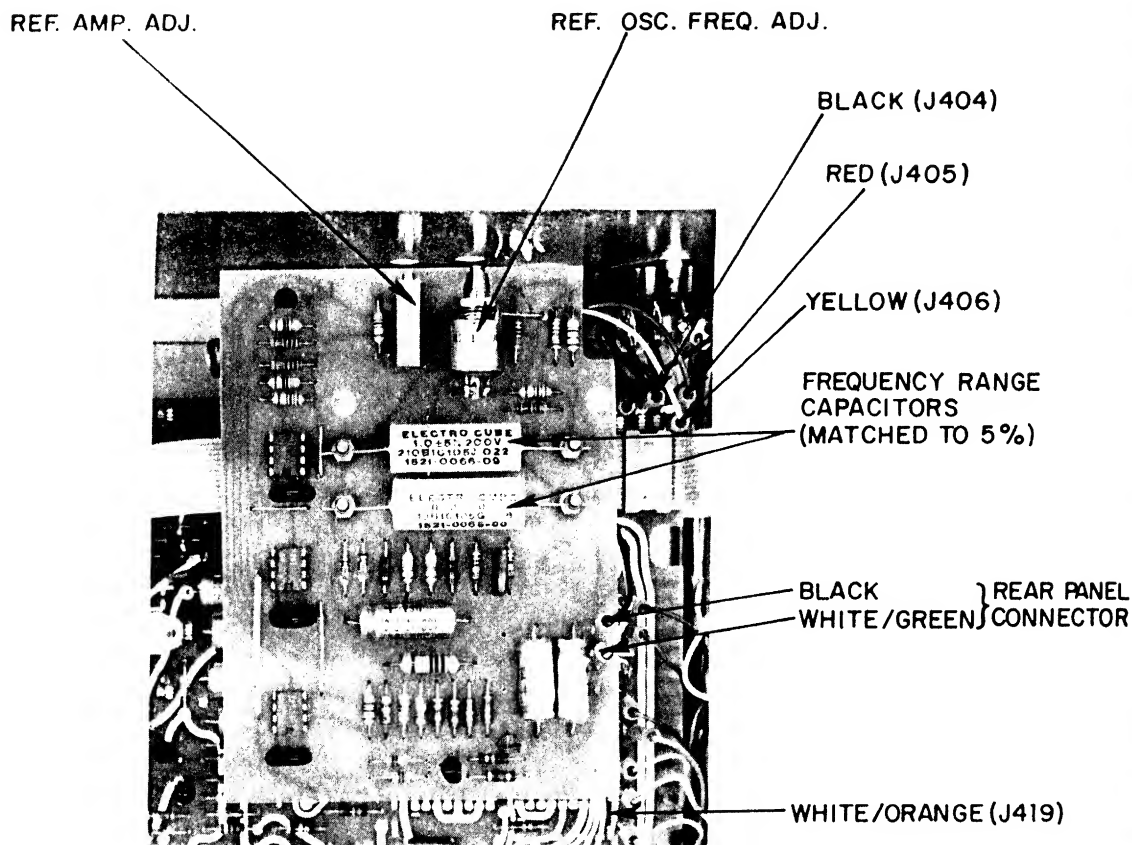

Figure IV-13. INTERNAL OSCILLATOR BOARD INSTALLED
If the Internal Oscillator is ordered separately, the installation is generally made by the customer. Three items are supplied, the oscillator board itself, a BNC connector with two wires attached, and a metal "tag" bearing the word "MONITOR". The oscillator circuit board is secured to the Model 128A by standoffs which plug into openings in the Model 128A Reference board as shown in Figure IV-13. This figure also shows the location of the various inter-connecting wires, all of which are terminated in quick-disconnect contacts so that the installation can be completed in a matter of minutes with no special tools or soldering required.\* The oscillator adjustments are ordinarily preset at the factory for 100 mV rms out at the frequency specified by the customer. The appropriate frequency range capacitors are factory inserted. The following procedure can be used to make the installation.
(4) Remove the Reference INPUT connector from the front panel. Then locate the "Monitor" tag over the panel opening and remount the connector so that the tag is secured in place by the connector mounting flange.
(5) Position the oscillator board as shown in Figure IV-13 but do not snap it into place yet. Dress the red, yellow, and black wires out to the right, and the longer white/orange wire towards the front of the instrument.
(6) Connect the red, yellow, and black wires as follows.
(7) Connect the pink wire from the Ref. In connector to J418.
(8) Locate the white/orange wire from the oscillator and connect it to J419. Dress this wire along the Ref. Bd.
(9) Press the Oscillator board down until it snaps into place.
(10) Connect the black and white/green twisted leads (from the rear-panel connector) to the Oscillator board quick-disconnect contacts as shown in Figure IV-13.